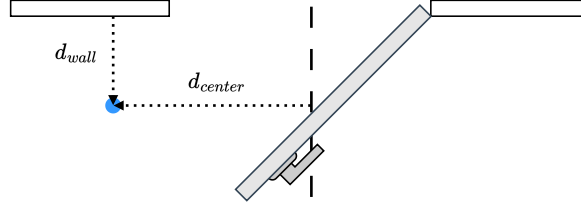

Figure 11: The initial robot location relative to the door is determined at the beginning of each episode by sampling d_{wall} and d_{center} .
- Initial Base Location: Set relative to the doorway by the distances d_{wall} and d_{center} as shown in Fig. 11. d_{wall} and d_{center} are sampled uniformly from $[1, 2]$ m and $[-2, 2]$ m respectively.